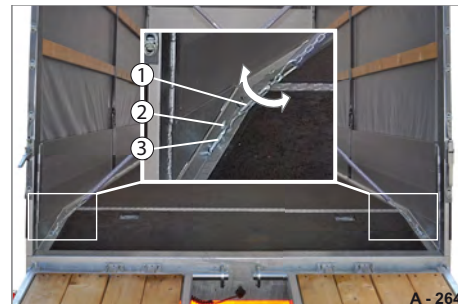

Fig. 206 Releasing the diagonal bracing
- Fasten the hook (Fig. 206/2) from below to the lashing shackle (Fig. 206/3).
- Tension the turnbuckle (Fig. 206/1) hand-tight with a tool.
- Turn the turnbuckle (Fig. 206/1) with a tool until the hook (Fig. 206/2) can be removed from the lashing shackle (Fig. 206/3).